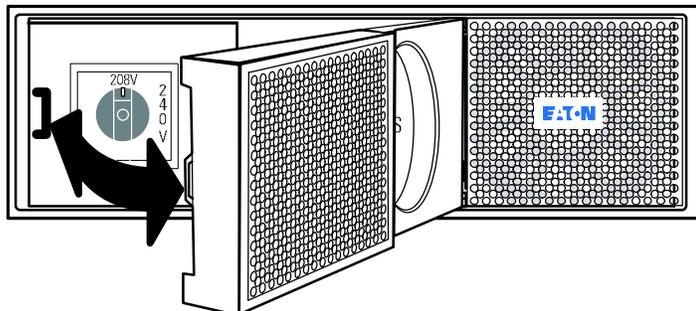

Figure 20. Open the Front Cover
3. Open the front cover from the left side (see Figure 20).